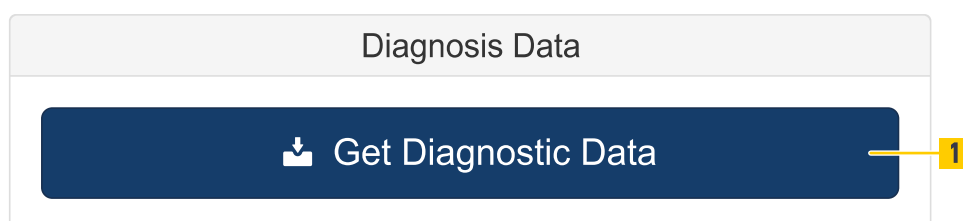

Fig. 145: Diagnosis Data
- For HELLA Aglaia customer support, it can be useful to provide diagnostic data that can be exported from the device. To download the file click Get Diagnosis Data (Fig. 145 /1).